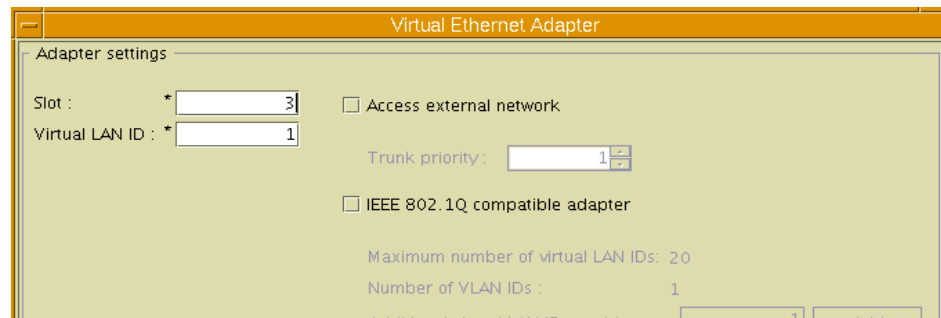

Figure 4-26 Key in Virtual Ethernet slot ID and VLAN ID
- When configuring the Virtual Ethernet on the VIO client, Key in the Slot ID and the VLAN ID. You do not need to check on the “Access external network” as shown in Figure 4-26.